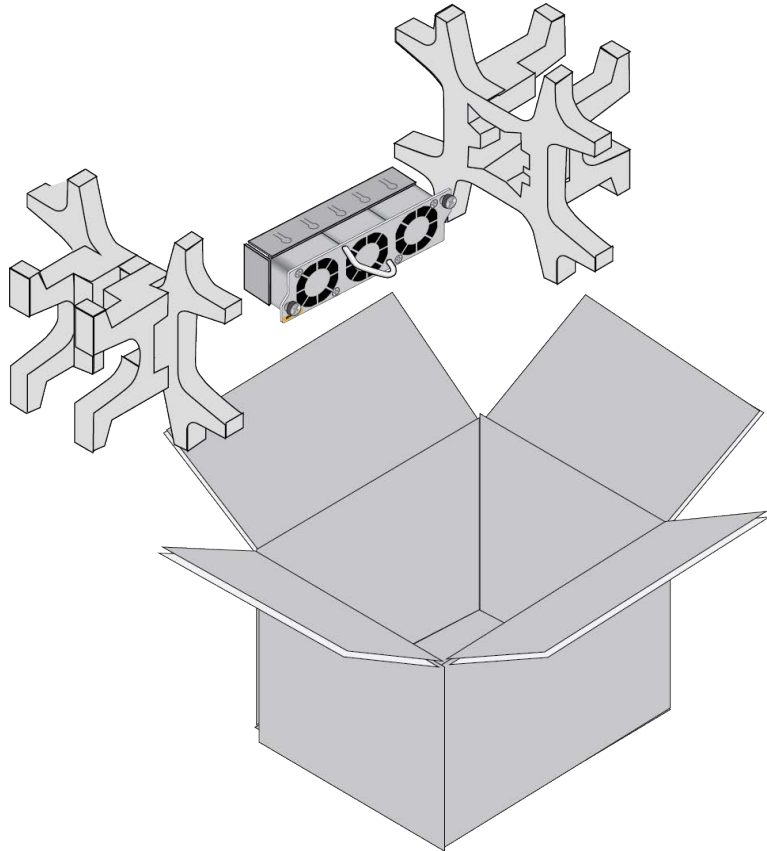

Figure 159. Removing the Fan Module from the Shipping Container
1. Remove the new fan module from its shipping box. Refer to Figure 159.